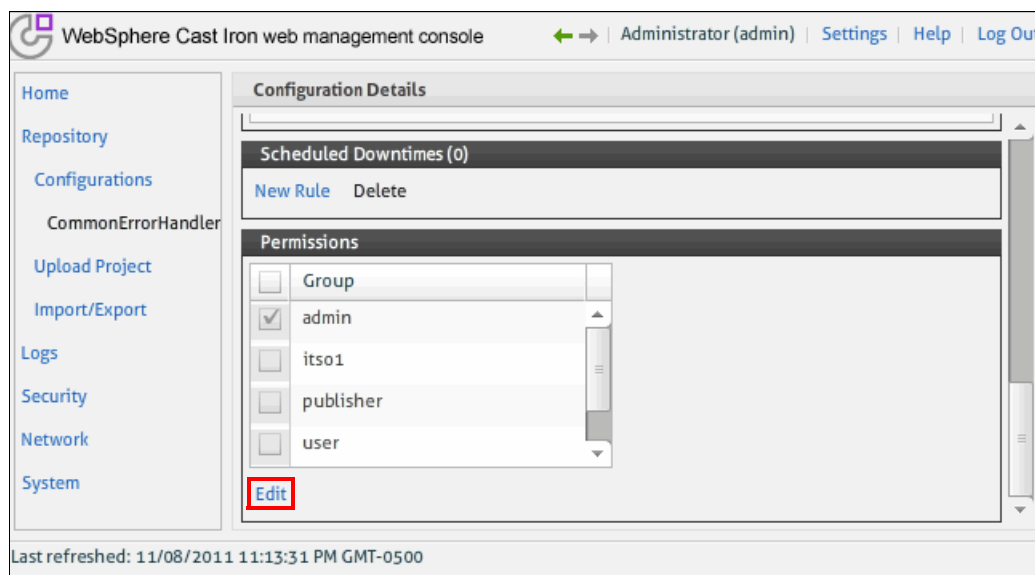

Figure 5-21 Permissions section in the Configuration Details panel
1. Click a project configuration. The Configuration Details page displays. In the Permissions section, click **Edit**, as shown in Figure 5-21.